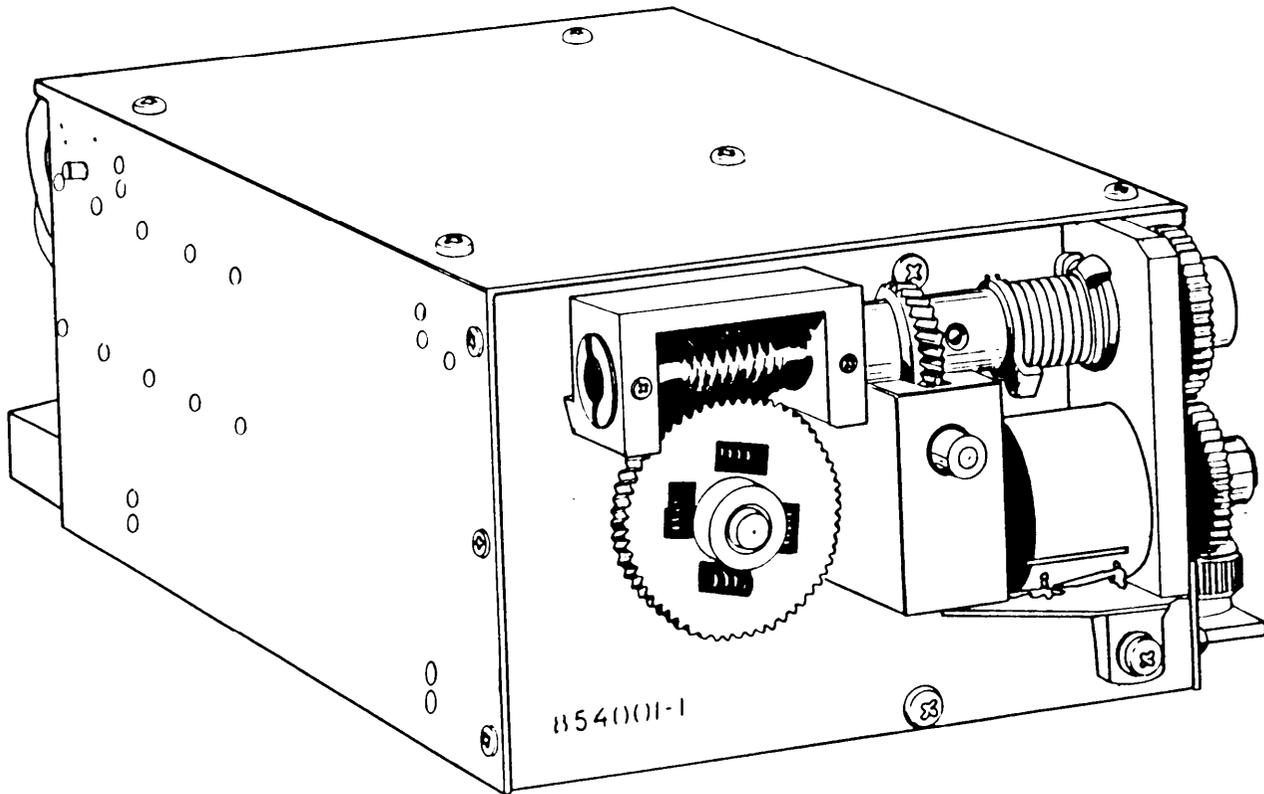

Figure 1-1. WJ-9120 0.5-30 MHz Tuner Assembly
1.1.1 The Type WJ-9120 Tuner Assembly is designed to operate with the WJ-8640 Series Manpack Receiver. The assembly is an interchangeable drop-in unit requiring simple hand tools for installation and removal. The WJ-9120 uses four separate RF preselectors to cover the 0.5 to 30 MHz frequency range. Preselectors A2 thru A4 (band 1) automatically cover the 0.5 to 12 MHz range in three segments of 0.5 to 1.5 MHz, 1.5 to 4.5 MHz and 4.5 to 12 MHz respectively. Preselector A5 (band 2) covers the 12 MHz to 30 MHz range. The intermediate frequencies (IF) provided by the tuner are 21.4 MHz for band 1, and 10 MHz for band 2. A two-position rotary switch located on the associated receiver's front panel determines which band is selected. The tuner is manually controlled by way of a coupling spring that connects the A9 tuning drive assembly to the coarse tuning control on the receiver's front panel. The electrical interface of the receiver and the tuner is accomplished by six-coaxial SMC series connectors (J1 thru J6) and a multipin connector P1. Operating voltages, AGC, FINE TUNE, DAFC and band 1 or 2 select signals are carried by the multipin connector. The RF input, IF and LO output signals for each band are passed between the receiver and tuner by the SMC connectors. A listing of the tuner's specifications is available in Table 1-1, and a 3/4 view photograph is shown on the adjacent page in Figure 1-1.